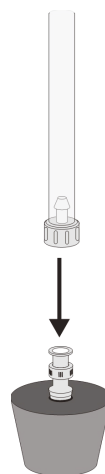

Figure 3
10. When incubation has finished, connect the free end of the plastic tubing to the connector in the rubber stopper as shown in Figure 3.